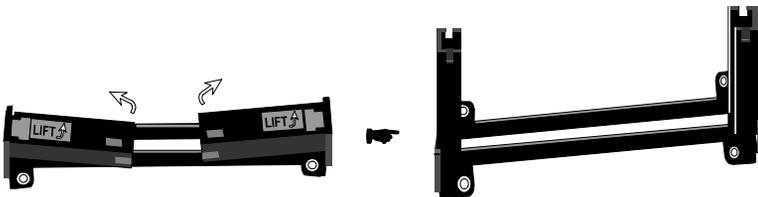

Figure 6
- ❶ First, please refer to figure 6 below, and follow the direction to lift up the fixed foldable pentium® II/III Retention Mechanism. This pre-installed device is designed for you to install Pentium® II/III CPU more easier and to avoid any damage on the board due to overtightening the four screws.
- ❷ One thing must be kept in your mind that please make sure to lift upright the foldable parts of the Retention module to fit and install CPU properly.